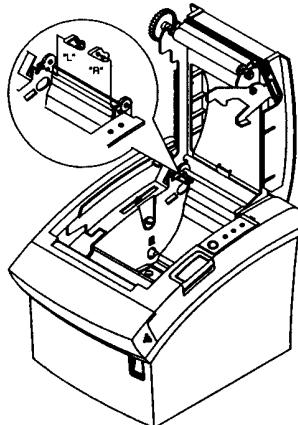

Figure 3-5 Wall Mount #1
1. Press the Push Button. After opening the cover, insert the Wall-Guide "L","R" to the Upper-Left Hole and the Upper-Right Hole inside of the printer (Figure3-5).